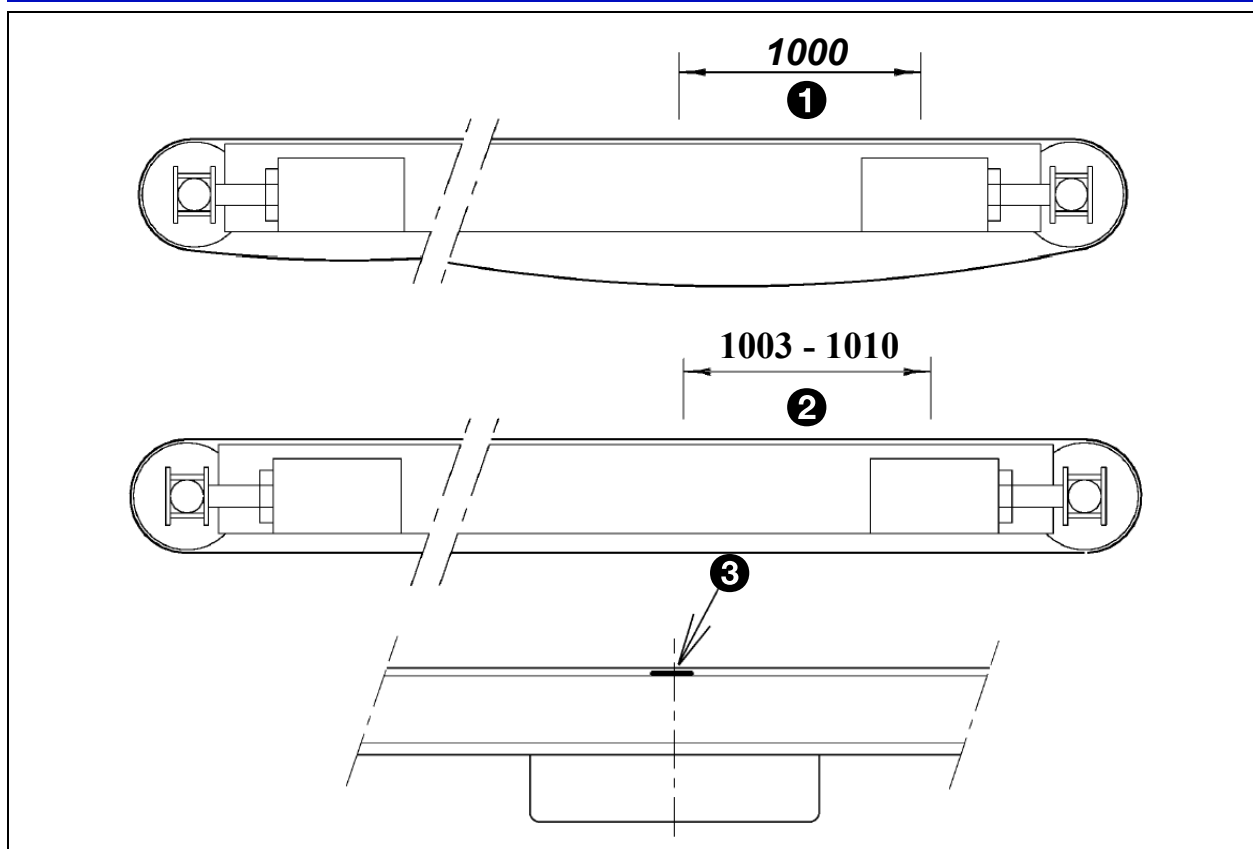

Fig. 202 - Adjustment of carton take-away conveyor
1. Make two marks on the untensioned conveyor belt at a given distance from each other (for example, 1000 mm, see (1) in fig. 202).
! So for the 1000 mm dimension, the required stretch will be a minimum of 1003 mm and a maximum of 1010 mm, see (2) in fig. 202.
4. Adjust the tensioning unit such that the belt is centred on the rollers. (the guide strips indicated by (3) in fig. 202 will need to be fitted to prevent sideways movement of the belt).